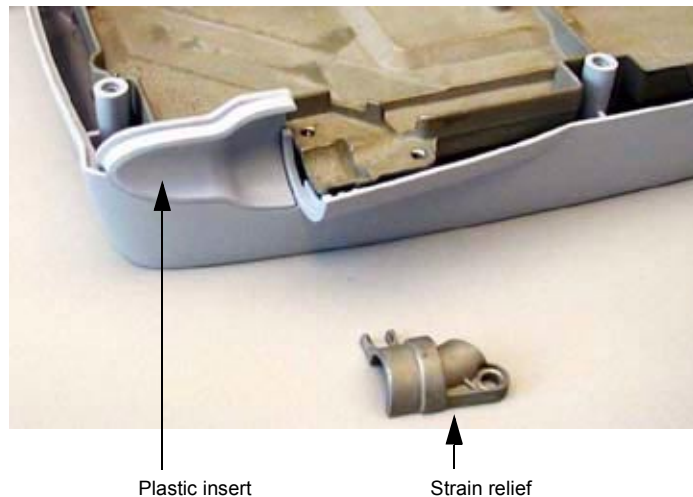

Figure 7.6 Plastic Insert and Transducer Cable Strain Relief
- 6** Install the plastic insert and the transducer cable strain relief. (Figure 7.6)
- 8 Install the plastic insert and the transducer cable strain relief. (Figure 7.6)